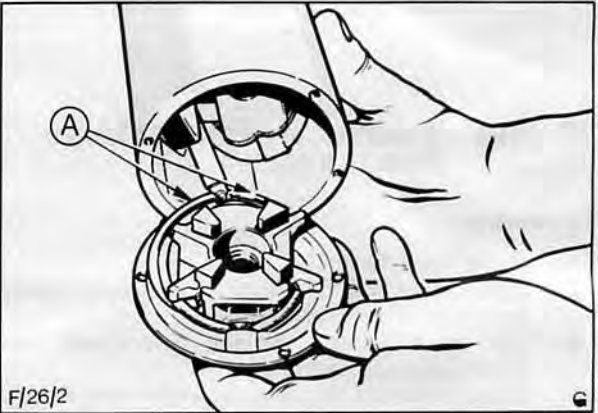

Fig. 20. Lift commutator plate clear of yoke sufficiently to allow access to both field winding brushes
2. Remove plastic cover from end of armature shaft. Remove four commutator end plate securing screws and carefully tap plate free of yoke. Lift commutator plate clear of yoke sufficiently to allow access to two field winding brushes, disconnect two brushes to allow complete removal of commutator end plate, Fig. 20.